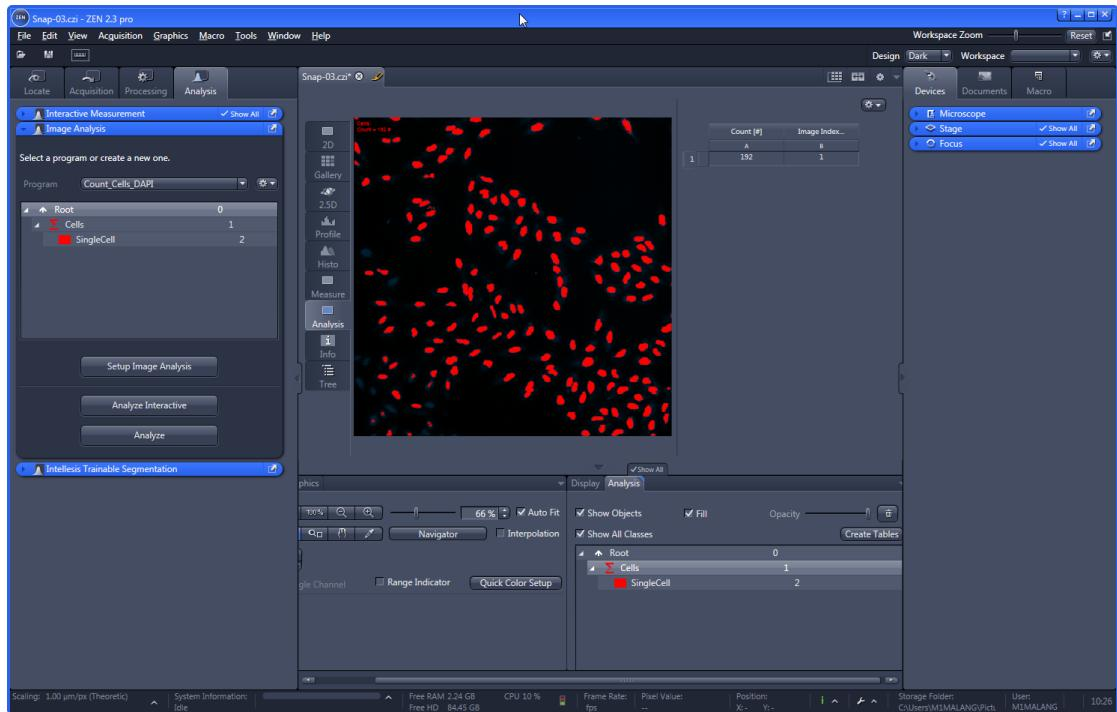

Figure 20: Image Analysis: Run the image analysis on sample data
5. Run the analysis pipeline using the **Analyze** button and check the results to ensure that the image analysis gives the results for further use within the Experiment Feedback (Fig. 20).